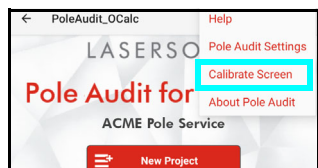

Figure 11
1. Tap [Calibrate Screen] from the menu (Figure 11).